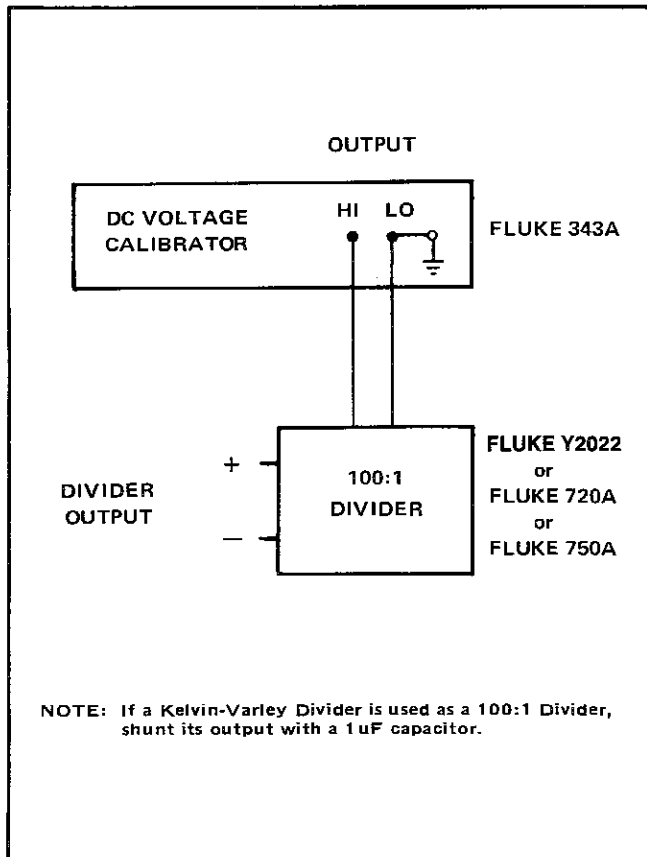

Figure 4-2. Voltage Divider-Calibrator Connection
- c. Connect a voltage divider to a dc voltage calibrator as in Figure 4-2. (See Table 4-1 for specifications.)
- a. Complete the equipment connections shown in Figure 4-2, by doing the following: